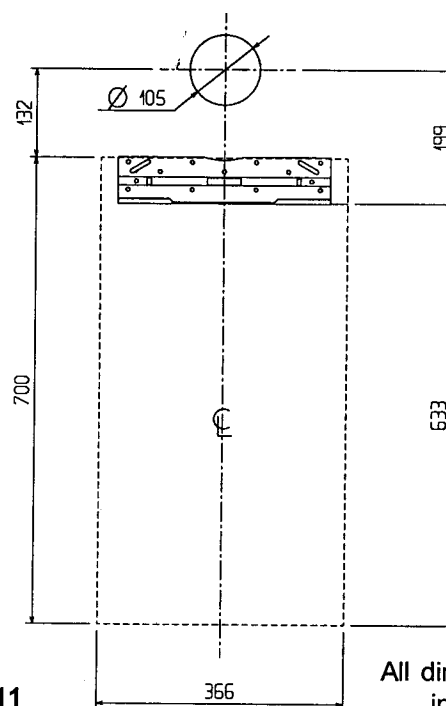
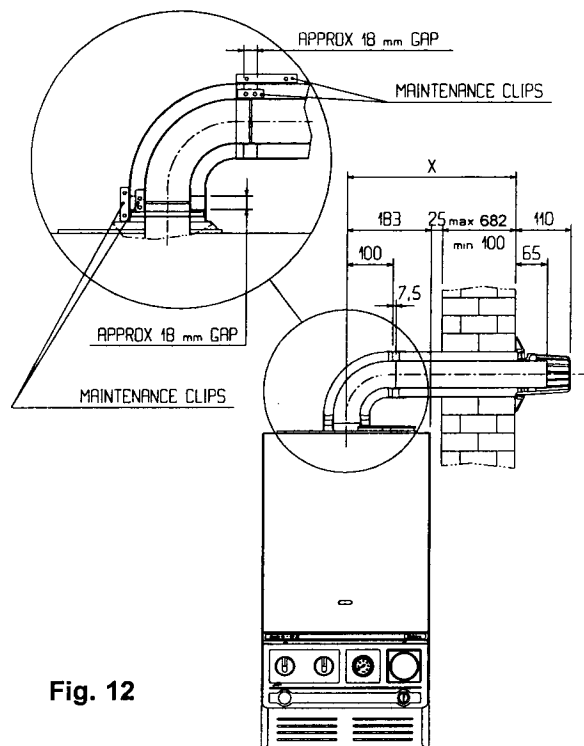
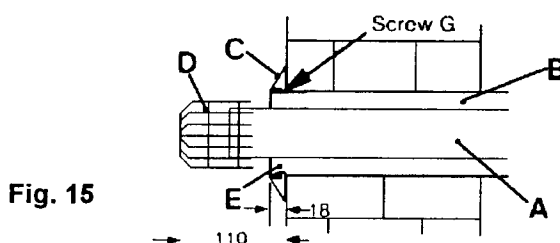
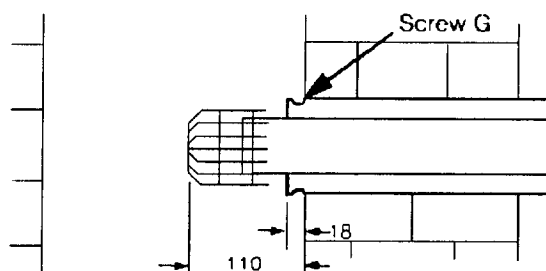

Fig. 11
Fig. 12
Fig. 15
Fig. 16
5.4 MOUNTING THE APPLIANCE (Ref. Fig.11)
Alternatively, position bracket and holes to dimensions in Fig. 11.
Refer to fig. 11 and figs. 12 - 16 for relevant dimensions for locating the hole. Where it is remote from the boiler take special care to ensure the hole is at the correct level so that the finished flue is horizontal.
5.5.1 Refer to figures 12 - 16
5.5.3 Hang the boiler on the bracket. Adjust the boiler sideways to its correct position. Locate the small maintenance clip on to the flue elbow (figs. 12 & 13) and assemble onto the flue outlet on the top of the boiler. Twist the flue bend to the outlet direction required, and tighten the maintenance clip to secure the flue bend in place. Carefully level across to check that the hole through the wall is 1° lower than the flue bend.
5.5.4 Measure carefully from the actual face of the outside wall to the centre of the flue bend. (Dimension X on Figs 12 & 14)
NOTE: The two tubes must be separated by removing screw G (fig. 15) before cutting. The outer air tube should also be shortened by the same amount to allow a gap for easy working (see inset on fig. 12).
- 5.5.9** Ensure inner and outer terminal tubes are firmly fitted together with screw G (Fig. 15). Push the terminal tubes through the wall until the face of the outer tube protrudes 18mm from the face of the wall (Fig. 15). The terminal grill (D) will then protrude 110mm from the wall face.
- 5.5.16** Check also that the outer end of the flue projects as indicated in Fig. 15 or Fig. 16 if installed in a S.E. duct.
- 5.5.17** Referring to Fig. 12 fit the large maintenance clips into position and secure the clip screws.
- 5.5.19** Seal the peripheral gap around the outer tube with cement or mastic and slip the cosmetic flexible plastic collar (Fig. 15) item C) into groove on the pipe.
- 5.5.21** Assemble the large and small maintenance clips as shown in Fig. 12.
- 5.5.29** Referring to Fig. 12 fit the large maintenance clip into position and tighten clip screws.
- 5.5.32** Subtract 97mm from the dimension and cut the outer tube to this length. **NOTE:** The two tubes must be separated by removing screw G Fig. 15 before cutting.
- 5.5.39** Referring to Fig. 12 fit the large maintenance clip into position and secure clip screws.